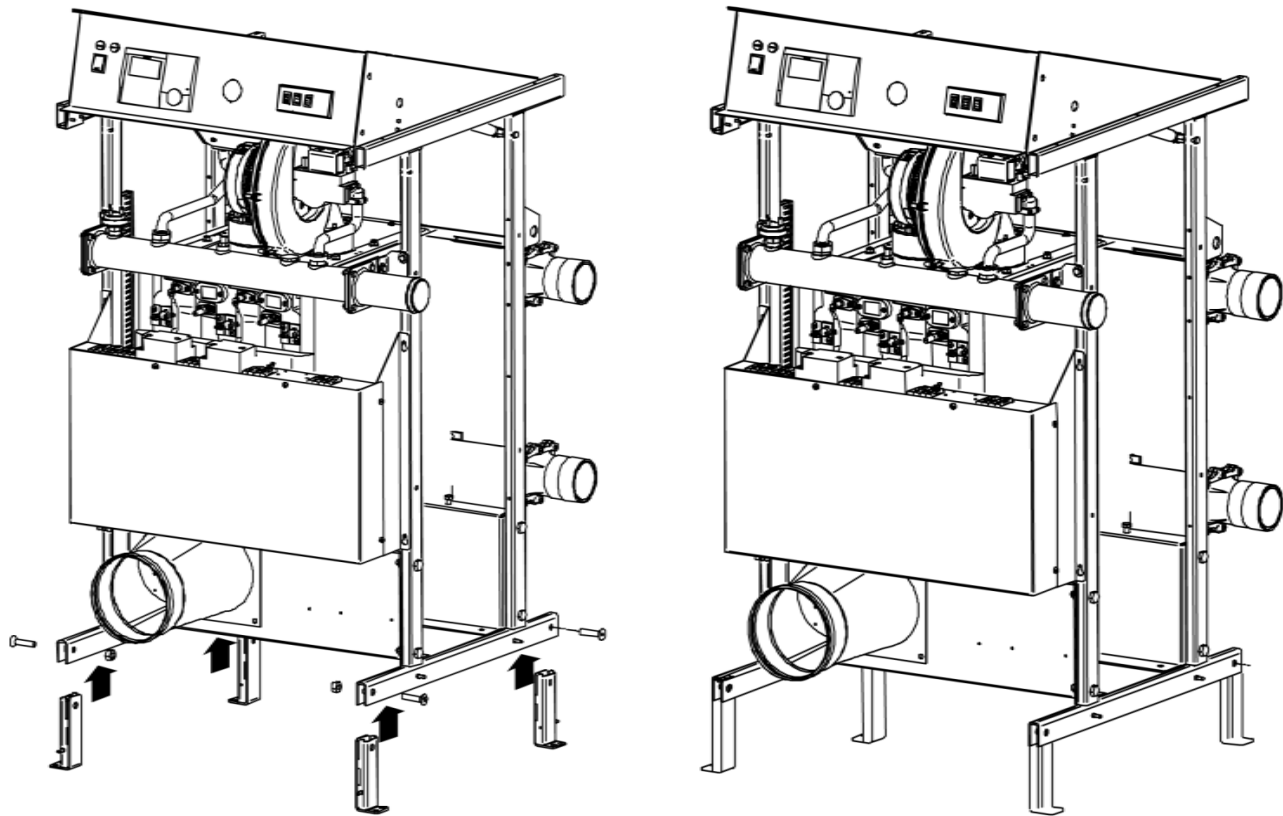

Figure 4-5: EXT Unpacking (Left = Attach Feet, Right = Ready for Cover)
- 4) Retrieve the four (4) support feet from one of the cardboard boxes packaged with the boiler.
- 5) Attach the four (4) support feet to the chassis using the four "A" screws removed in Step 3 (Figure 4-5).